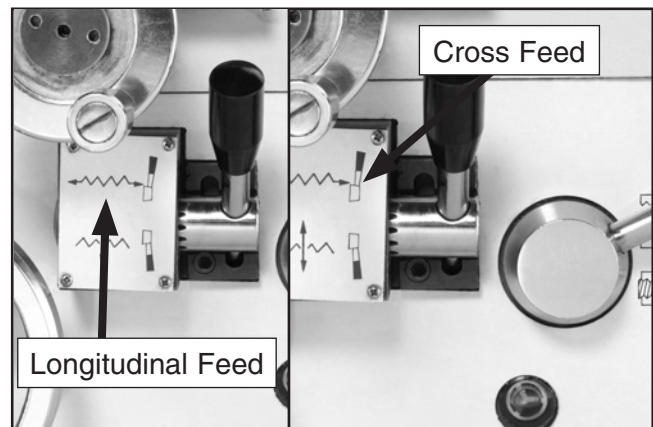

Figure 52. Power feed lever settings.
- 2a. Push the power feed lever shown in **Figure 52** to the left and down to engage the cross feed.